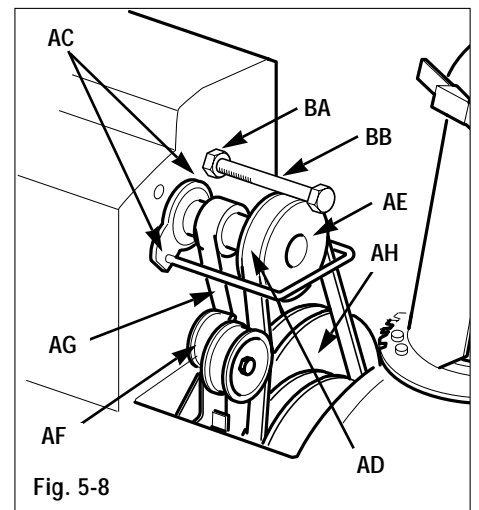

Fig. 5-8
2. Remove the two bolts securing belt guide (AC, Fig. 5-8) to the engine. Remove the belt guide.
3. Loosen jam nut (BA) and remove bolt (BB).
4. Release tension on the idler (AF). Remove the auger drive belt (AD, Fig. 5-8) from the auger drive pulley (AE).